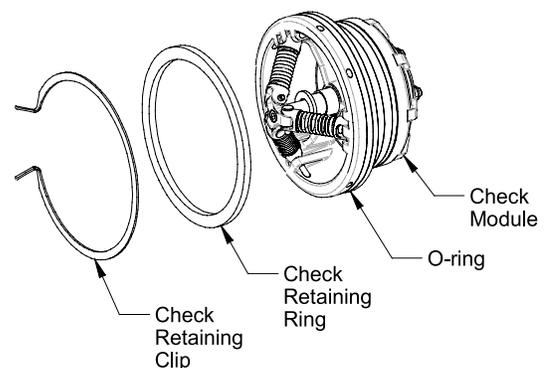

Figure 3
3. Remove the check-retaining clip by pinching the clip ears together. This will disengage the clip from its groove. Remove clip and check-retaining ring. Pull check module straight out of body. The check module is sealed in place with an o-ring. (See Figure 3)